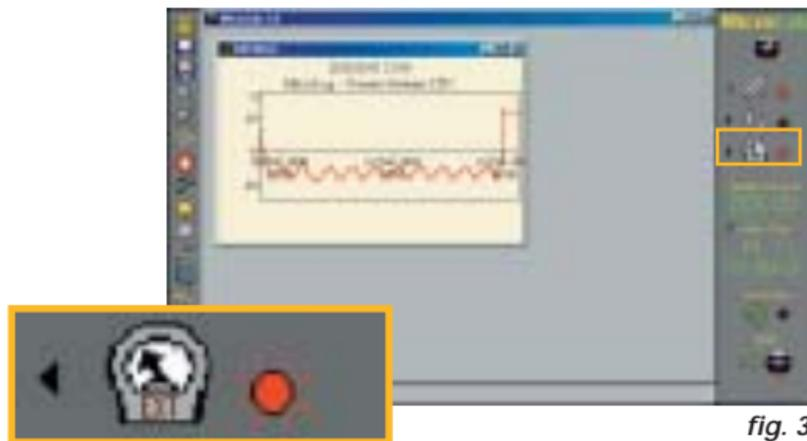

fig. 3
4. Activate the MicroLog external sensor by clicking on the Sensor Selection button next to the external sensor on the right-hand toolbar (fig. 3).
Select the small rectangle near the External sensor icon (fig. 3). In case you are using the sensor to measure current, use the sensor's default parameters: Name = Current, Unit = mA and Calibration Values = 0 and 20mA.